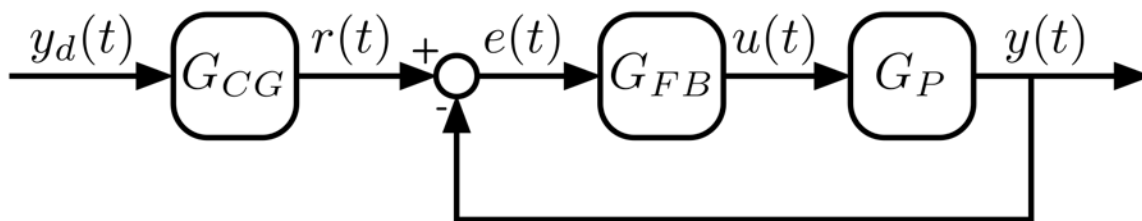

Figure 3.1: Control System Block Diagram
For the proposed control system in Figure 3.1:
- i. What is its goal? For full credit, write this goal using an equation expressed in the terms from Figure 3.1.